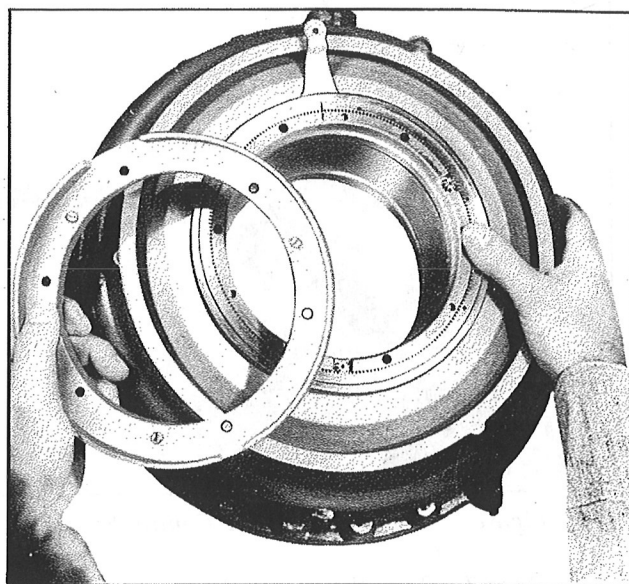

Figure 127—Control Lever Indexing, Model A632S-C1
**Step 6.**—Lift off the adapter plate as shown in Figure 127 and note the index marks on the control lever and adapter ring.
On Model A632S-C1, the No. 1 tooth of the control lever should coincide with the index mark on the adapter ring. Index marks on the adapter ring for Models A632S-B1 and -B5 should register with tooth No. 222 of the control lever. See Figures 127, 128. For Models A632S-A1, -A2, the index mark on the adapter ring should coincide with the index mark on the control lever.